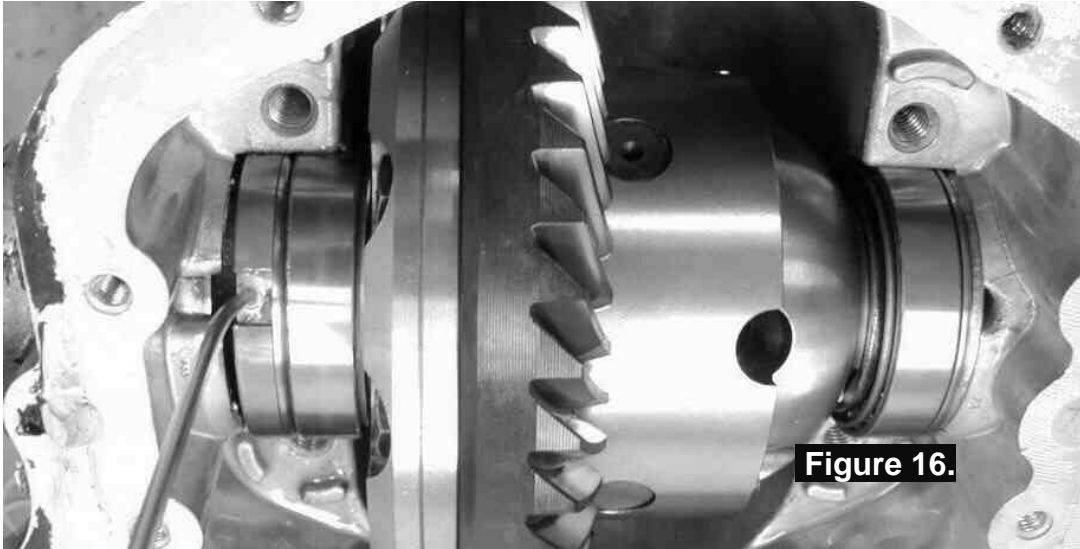

Figure 16.
- Rotate the seal housing until the tube is positioned in the center of the oil drainage notch of the aluminum housing. (Fig.16.)